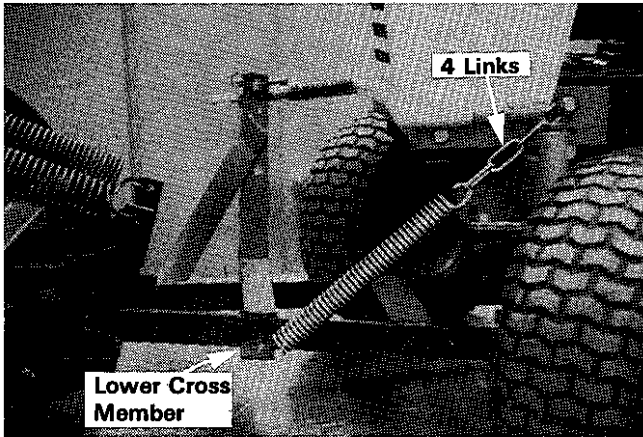
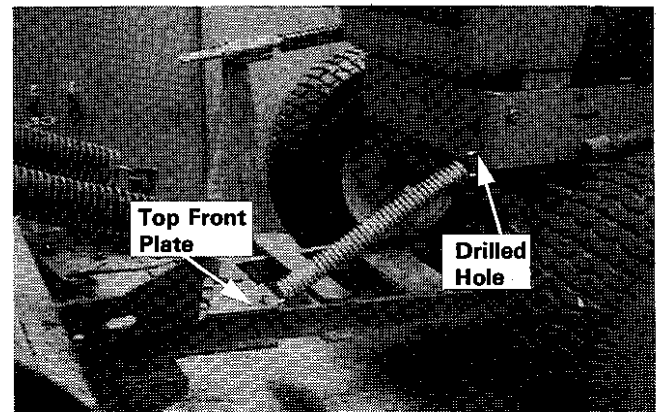

Figure 7A. 42" Blade - Group 1
Figure 7E. 46" Blade - Group 3
For 46" blades on Group 3 and 4 tractors, drill a **.406"** hole in the (top) front plate. Hole should be located **2-3/4"** left of centerline and **1/2"** forward of the plate rear edge. (Refer to figures 7E and 7F.)
- Raise the push bar and hook up one end of spring to chain or frame as shown in figures 7A through 7F. Hook other end of spring to hole drilled in hitch cross member (figure 7A-7D) or top front plate (figure 7E-7F).
Figures 7A thru 7F. Spring Installation